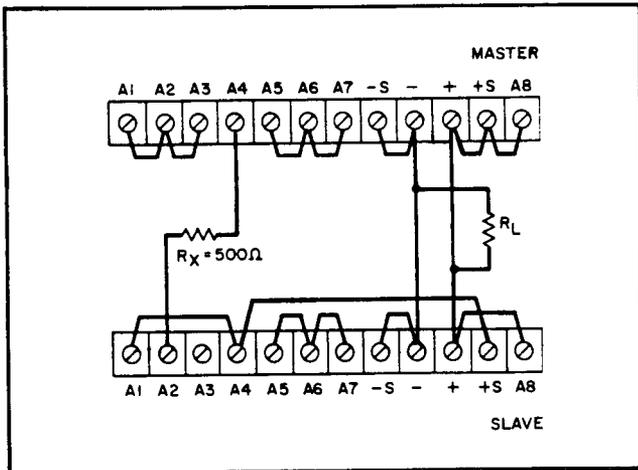

Figure 3-10. Auto-Parallel Operation, Two Units
* 3-66 AUTO-PARALLEL OPERATION (Figure 3-10)
3-68 Additional slave supplies may be added in parallel with the master/slave combination. All the connections between the master and slave #1 are duplicated between slave #1 and the added slave supply. In addition, the strapping pattern of the added slave should be the same as slave #1. Remote sensing and programming can be used, though the strapping arrangements shown in Figure 3-10 show local sensing and programming. In order to maintain the temperature coefficient and